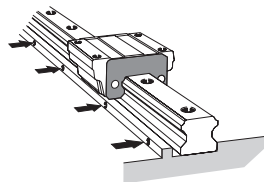

Fig.5 Tightening the Set screws
(3) Secure the set screws for the LM rail in order with a tightening force just enough to have the rail closely contact the side mounting surface. (Fig.5)